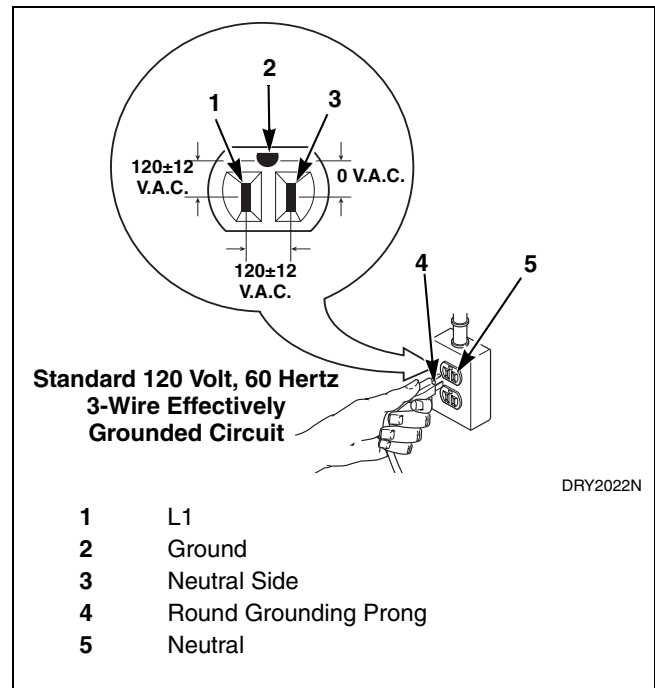

Figure 11
The three-prong grounding plug on the power cord should be plugged directly into a polarized three-slot effectively grounded receptacle rated 110/120 Volts AC (alternating current) 15 Amps. Refer to *Figure 11* to determine correct polarity of the wall receptacle.
**NOTE: Have a qualified electrician check the polarity of the wall receptacle. If a voltage reading is measured other than that in *Figure 11*, the qualified electrician should correct the problem.**